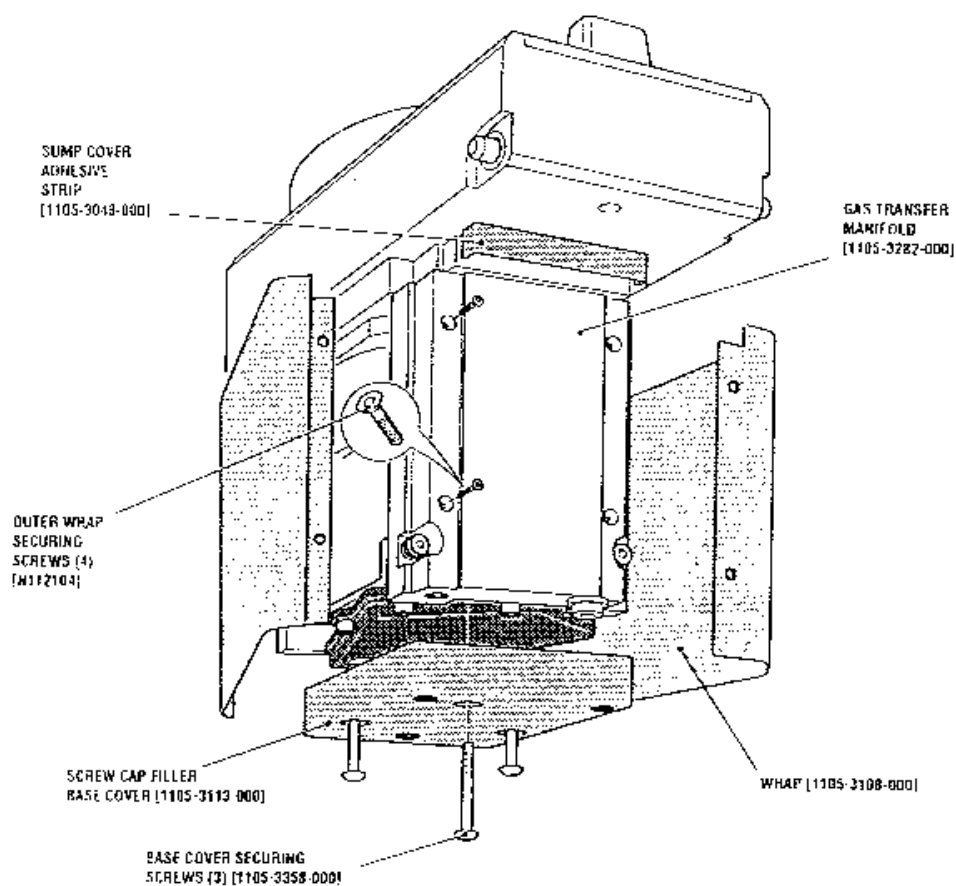

Fig. 8.1 Fitting The Screw Cap Filler Wrap And Base Cover
8.1 Screw Cap Filler (Fig. 8.1 And 8.2)